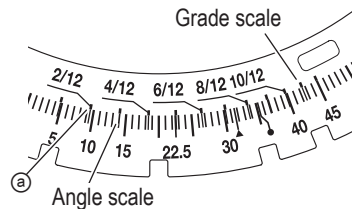

Fig. 39
- (1) Unlock the miter table by lifting up on the miter lock handle.
- (2) While lightly pressing down on the positive stop lever until it engages the detent lever, grasp the miter lock handle and rotate the table left or right to the desired angle.
- (3) Once the desired miter angle is achieved, press down on the miter lock handle to secure the table into position.
- (4) If the desired miter angle is one of the nine positive stops noted below, please see the Miter detent lever section on page 27.
- (5) Turn the LED light on and position the workpiece on the table for pre-alignment of your cut.
- (6) The miter scale (Fig. 39) indicates both the cutting angle on the angle scale and the gradient on the grade scale.
- (8) Therefore, to cut a workpiece at a grade of 2/12, set the indicator to position (A) as indicated in Fig. 39.